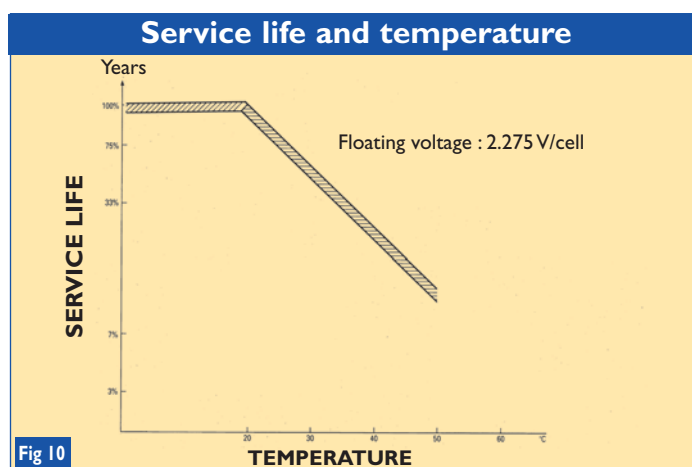

Fig 10
- Batteries temperature, (see fig.10). The service life of batteries is divided by 2 for every band of 10 °C over 20°C. It should be noted that compensating for the floating voltage in relation to the temperature reduces the loss of service life by 20%.